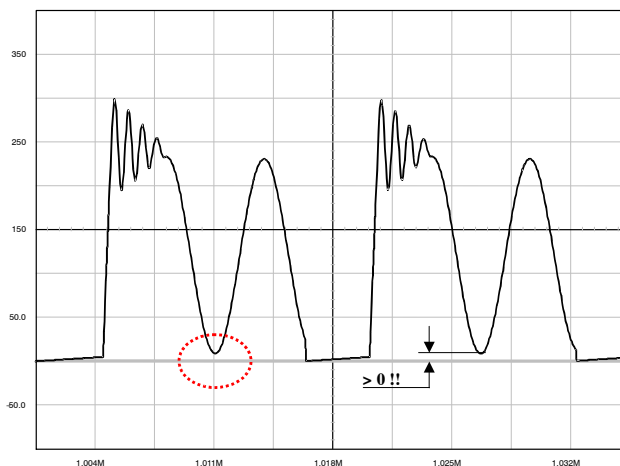

Figure 38. The Drain-Source Wave Shall Always be Positive
1. The lateral MOSFET body-diode shall never be forward biased, either during start-up (because of a large leakage inductance) or in normal operation as shown by Figure 38. This condition sets the
Figure 40a: the simple capacitor limits the voltage according to The lateral MOSFET body-diode shall never be forward biased, either during start-up (because of a large leakage inductance) or in normal operation as shown by Figure 38. This condition sets the maximum voltage that can be reflected during t_{off} . As a result, the Flyback voltage which is reflected on the drain at the switch opening cannot be larger than the input voltage. When selecting components, you thus must adopt a turn ratio which adheres to the following equation: Equation 3. This option is only valid for low power applications, e.g. below 5 W, otherwise chances exist to destroy the MOSFET. After evaluating the leakage inductance, you can compute C with Equation 4. Typical values are between 100 pF and up to 470 pF. Large capacitors increase capacitive losses...